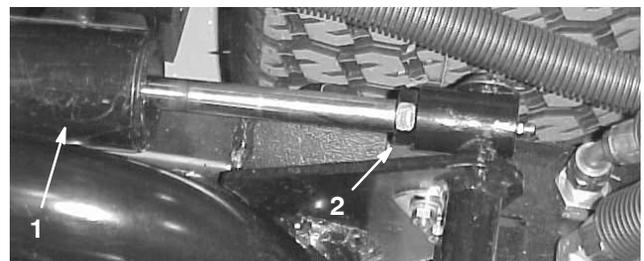

Figure 10
3. Start the engine, raise the decks, and check to make sure that the clearance between the wear strap on the top of the rear cutting unit wear bar and the bumper strap is 0.02–0.10 in. (0.51–2.54 mm) (Fig. 9). If the clearance is not in this range, adjust the rear cylinder to attain clearance. To adjust the cylinder, lower the cutting units and back off the jam nut on the cylinder (Fig. 10). Grasp the cylinder rod close to the nut with a pliers and rag and rotate the rod. Raise the cutting units and check the clearance. Repeat the procedure if required. Tighten the clevis jam nut.